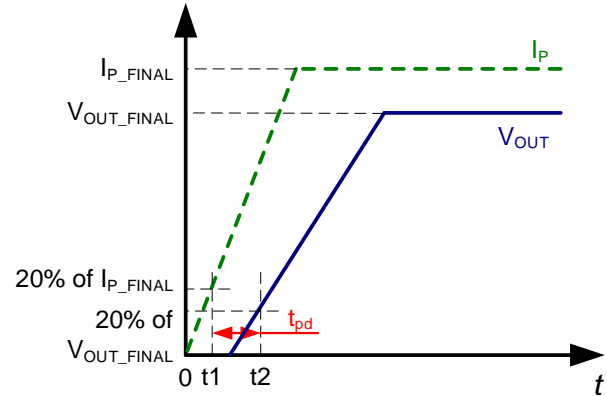

Figure 6: Propagation Delay (t_{PD})
2. t_2 : V_{OUT} reaches 20% of its final value, as it corresponds to the applied primary current (see Figure 6).